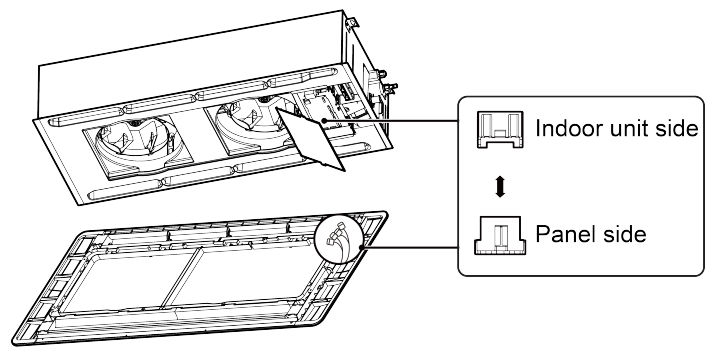

Fig.4.5.3
(3) Connect the decoration panel terminals (Female) to body terminals (male) as shown in Fig.4.5.3.